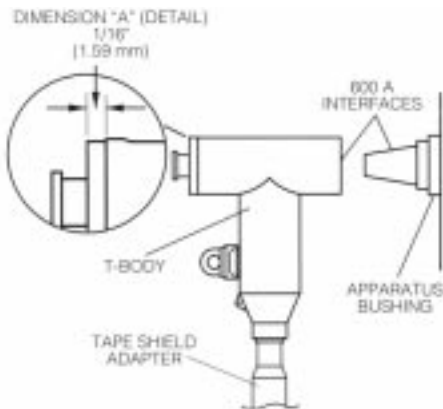

Figure 18.
- Tighten insulating plug with a 1N socket and torque to 55 ft-lb (Refer to Figure 18.)